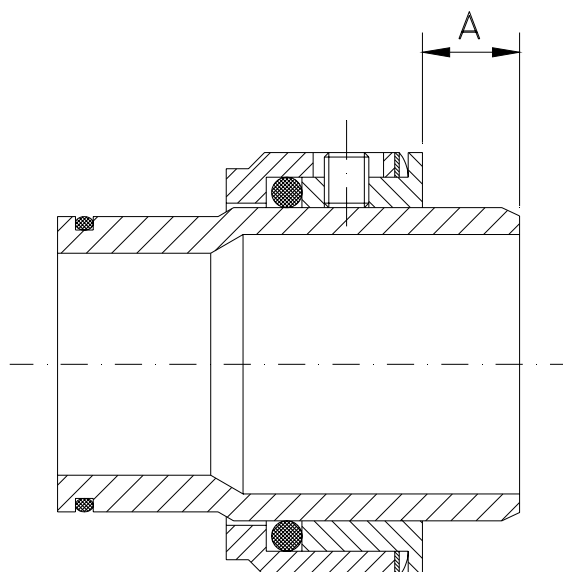

Figure 8.2: assembling the mechanical seal
- One time the pump cover (09) has been disassembled, as indicated in the foregoing section, take out the seal cover (09A) - the stationary part of the mechanical seal (08A) comes out of the pump cover -. Measures have been taken to avoid that this face could rotate simultaneously with the shaft. Check that the rubbing face and the O-rings are in good condition. The rotating part of the seal (08) remains in the shaft liner (13).
- If the adjustment ring in the rotating part of the mechanical seal is dismantled, it must be readjusted when the seal and liner are assembled, and placed at the end of the liner and positioned between the shaft's two dragging pivots; see figure 8.2. and table 8.2.. Then, the rotating part of the mechanical seal (08) with the O-ring and the spring can also be mounted.